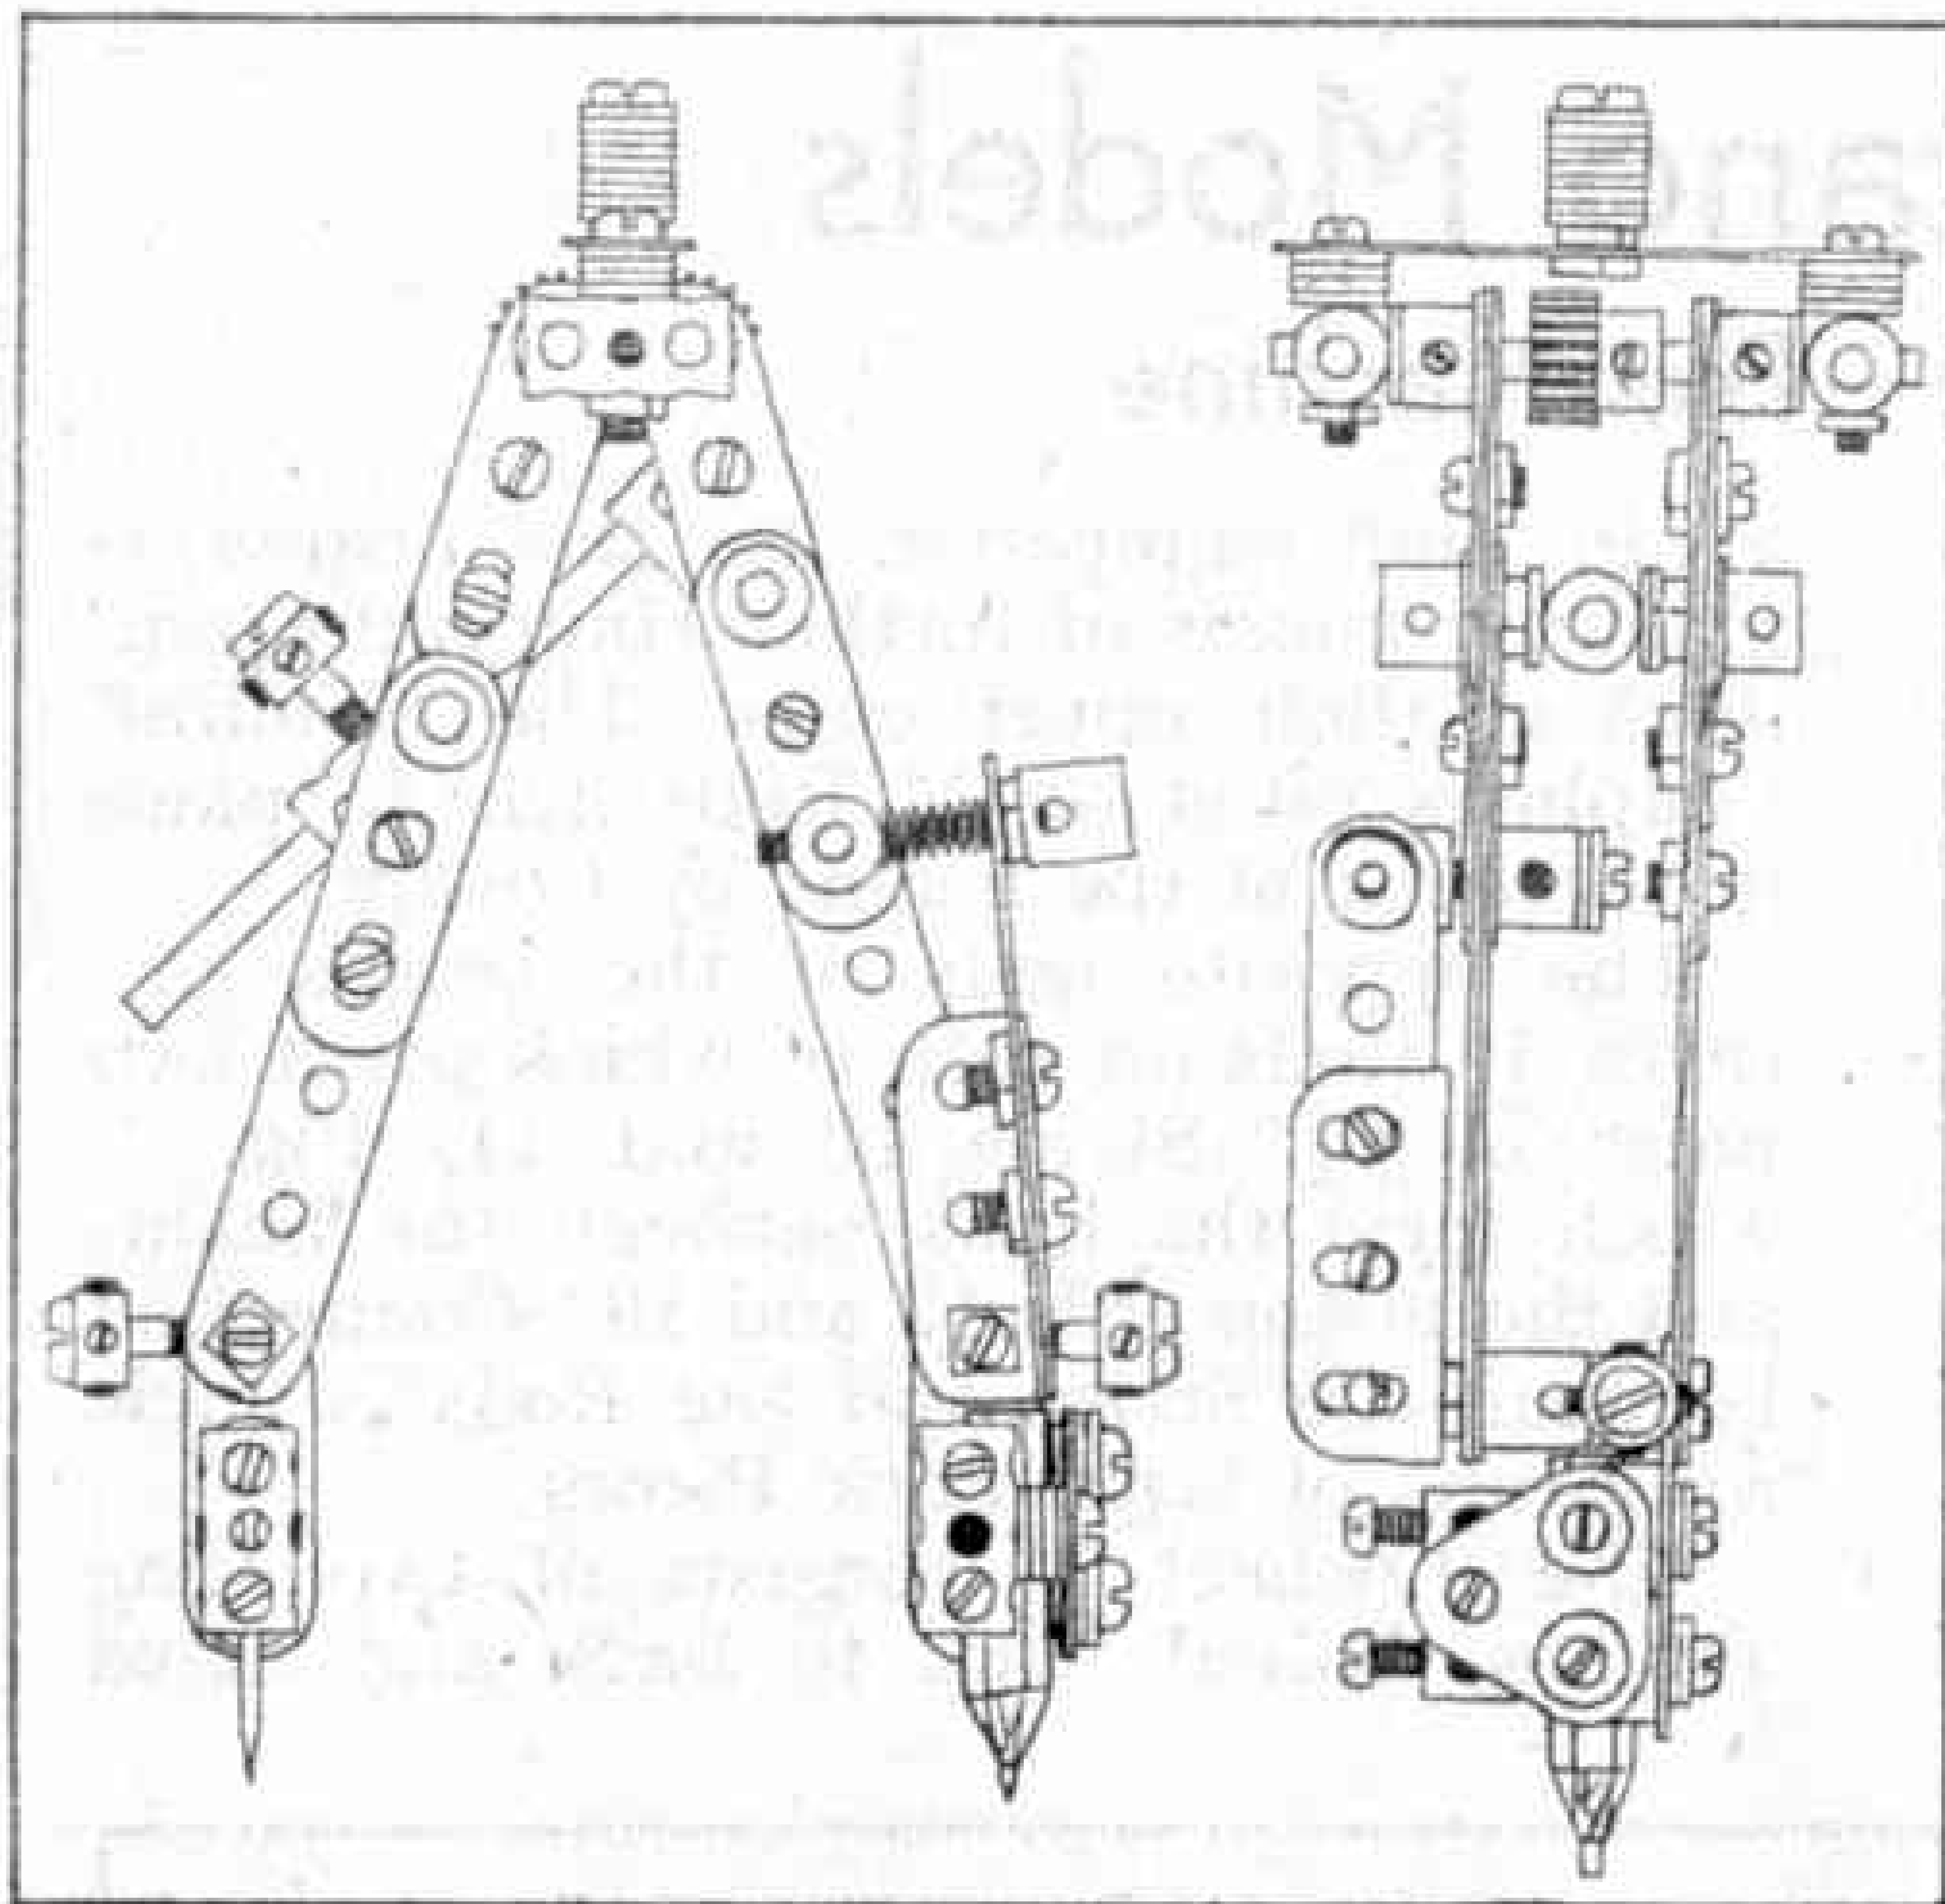

Fig. 4. Meccano compasses designed by A. B. Partridge, Northampton.
A. B. Partridge, Northampton, has designed the useful Meccano compass shown in the drawing reproduced in Fig. 4. The general construction of the instrument can be followed from the illustration, but there are one or two special features of the design that require explanation. For example, it will be noticed that the limbs are geared together in the handle. The idea in this is that the method renders the handle self-centring, which is a great convenience in using the instrument.